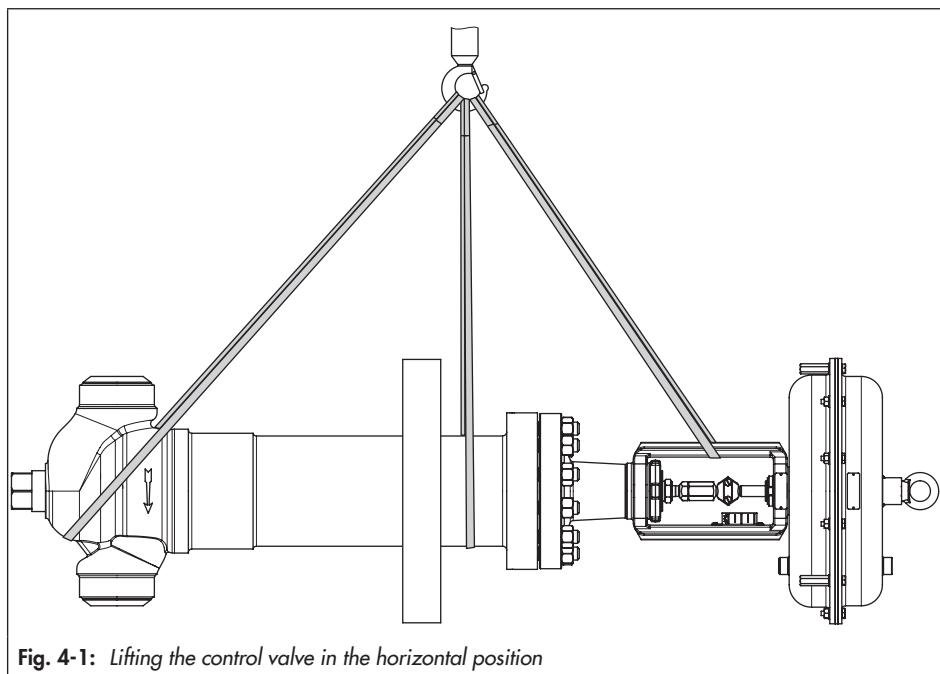
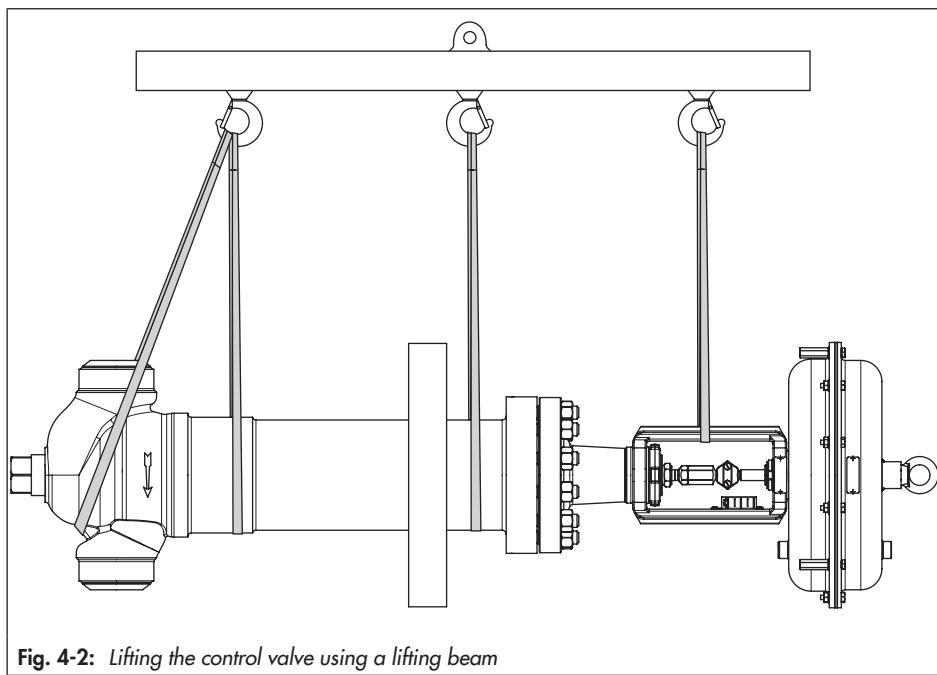

Fig. 4-1: Lifting the control valve in the horizontal position
Fig. 4-2: Lifting the control valve using a lifting beam
- Use a hook with safety latch (see Fig. 4-1 and Fig. 4-2) to secure the slings from slipping off the hook during lifting and transporting.
The control valve can be lifted in the horizontal position either using one hook (Fig. 4-1) or using several hooks on a beam (Fig. 4-2).
1. Attach one sling to the valve body, cryogenic extension bonnet and yoke as well as to the rigging equipment (e.g. hook of the crane or forklift (see Fig. 4-1).
2. **When using a beam for valves in NPS 4 or larger:** attach additional sling to support the valve at the body (see Fig. 4-2).